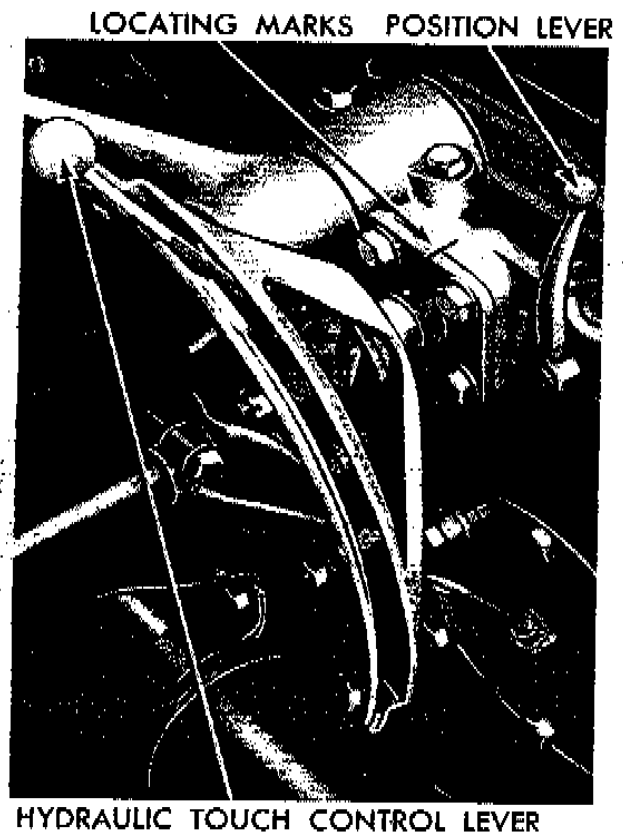

Fig. 31—Quadrant Locking Mark
(3) Examine the top of the quadrant support plate for locating marks as shown in fig. 31. The quadrant support cap screws should be loosened, locating marks aligned, and the cap screws tightened. If there are no locating marks, remove two cap screws from the quadrant support plate, loosen the two remaining cap screws, and center the slot in the quadrant support plate on the cap screws as accurately as possible. Replace and tighten the cap screws that support the quadrant.
(4) Place the position control lever in the "ON" position. Move the hydraulic touch control lever to the "ON" position.